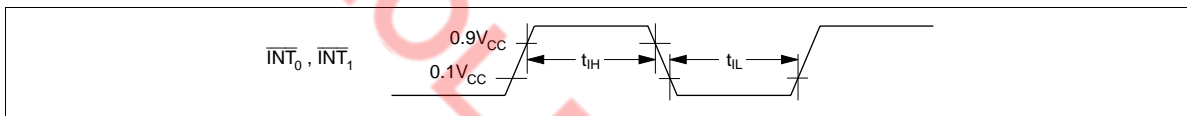

Figure 51 Interrupt Timing
4. See figure 51. The unit tcyc applies when the MCU is in standby mode or active mode.